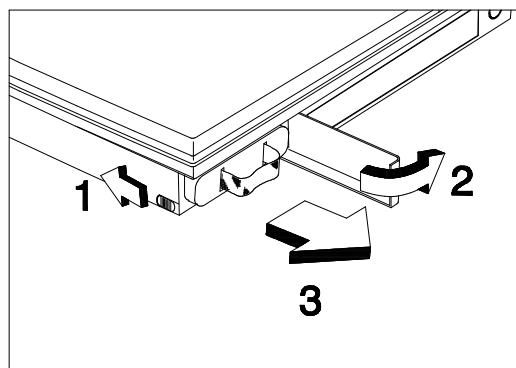

Figure 2-3 Battery Pack Installation
2. Unlatch the battery compartment door (right front corner of the unit) as shown in Figure 2-3.
3. Slide the battery compartment door out slightly and then swing the door outward as shown in Figure 2-3.